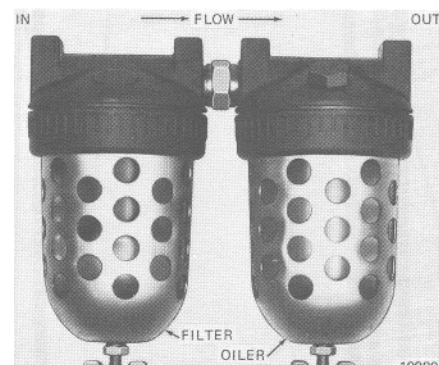

Figure 2-3. Air Filter and Lubricator Unit.
c. A filter and lubricator unit (Figure 2-3) must be installed between air source and air hose leading to hoist. These keep air flowing to hoist free of dirt and add lubricant to air so internal parts of motor are constantly lubricated. Use Air Hoist Motor Oil or good grade 10W machine oil (approximately viscosity 150 SSU at 100°F.). Multi-viscosity, detergent type engine oil is not recommended. Feed one drop of oil for every 50 to 75 cubic feet of air going through the air motor.